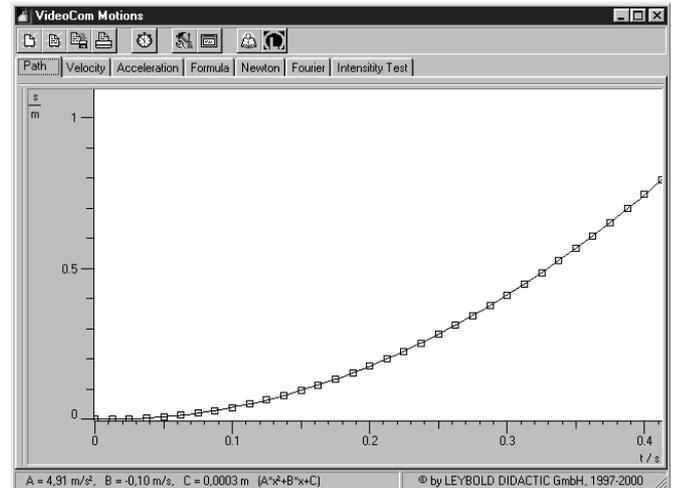

Fig. 3 Path-time diagram of the falling body.
Fig. 3 shows the recorded path-time diagram of the falling body. The covered path s does not depend on the time t linearly. The time dependence corresponds to a parabola (cf. (I)).